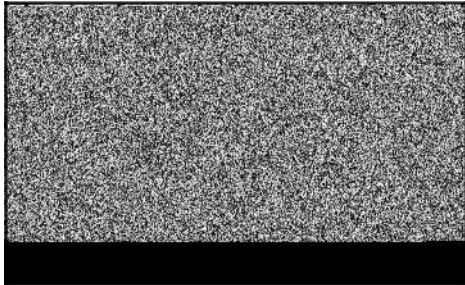

Figure 18
2. Remove screws holding muffler guard (A, Figure 18). Remove guard and set aside.